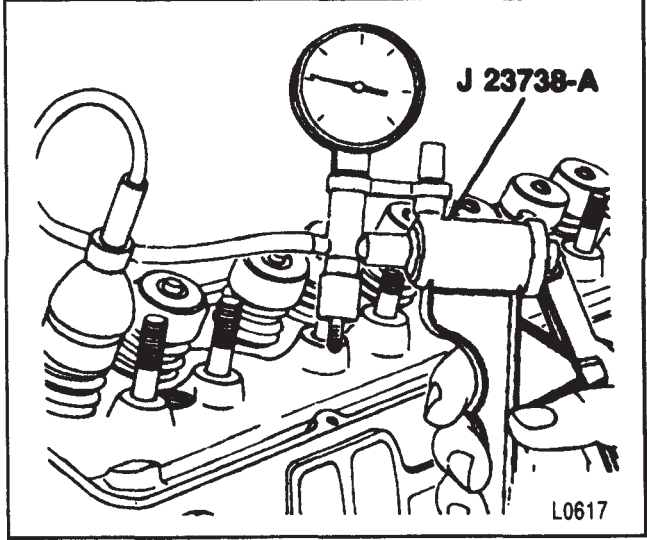

Figure 11—Testing the Valve Seals
- F. Check each O-ring seal for leakage (figure 11).